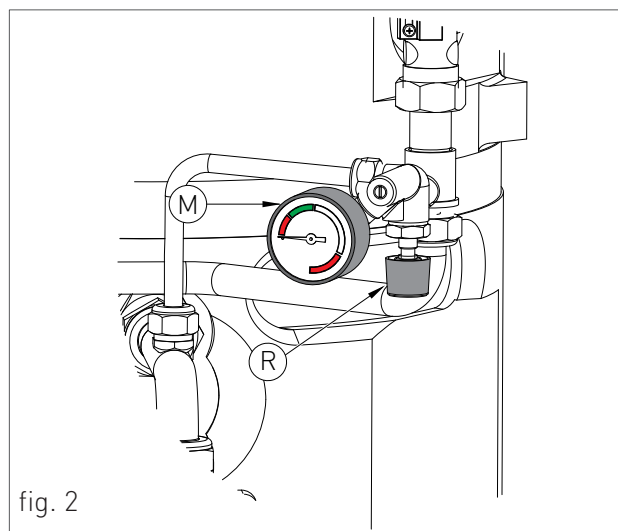

fig. 2
3. open the feeding tap "R" (fig. 2);
5. use pressure gauge "M" (fig. 2) to make sure that the system pressure reaches 1.2 bar, which corresponds to the middle part of the green zone 'ZV' (fig. 4);
6. after performing this operation, make sure that the loading tap "R" (fig. 2) is properly closed.